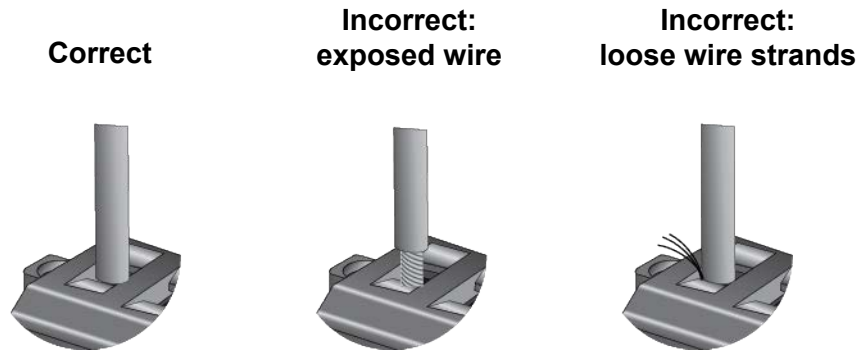

Figure 59. Verifying the DC Power Wire Installation
7. After attaching the wires, verify that there are no exposed wires or loose wire strands. Refer to Figure 59.